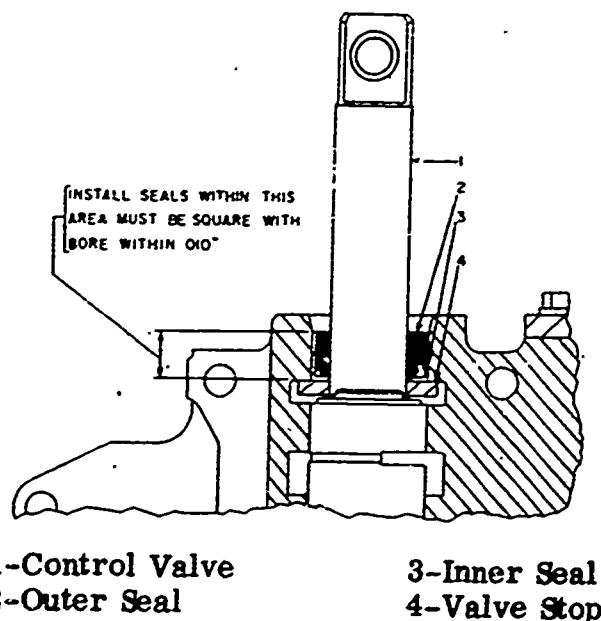

Fig. 8 Proper seal installation
ASSEMBLY -- Install oil seal (32) in body (10) with lip of seal facing in. Place oil seal (33) in body with seal lip facing out. See Figure 8 for proper seal installation.